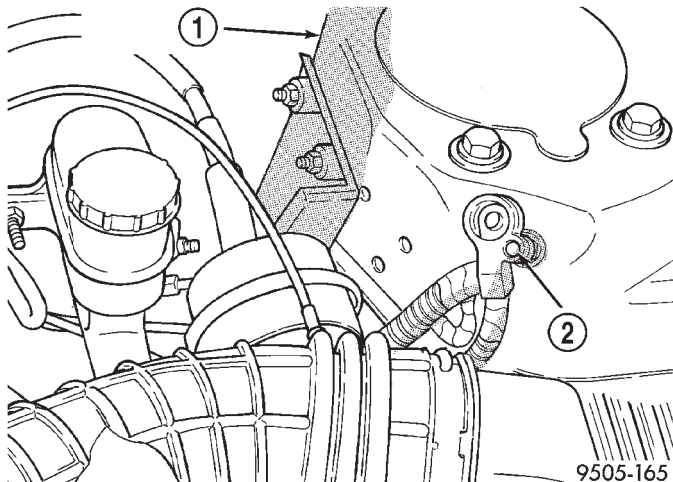

Fig. 23 Correctly Isolated Remote Ground Cable
(2) Correctly isolate remote ground cable when servicing vehicle by installing the ground cable insulator on the strut tower ground stud as shown in (Fig. 23) and installing the nut on the stud. **This will prevent accidental grounding of the remote ground cable.**